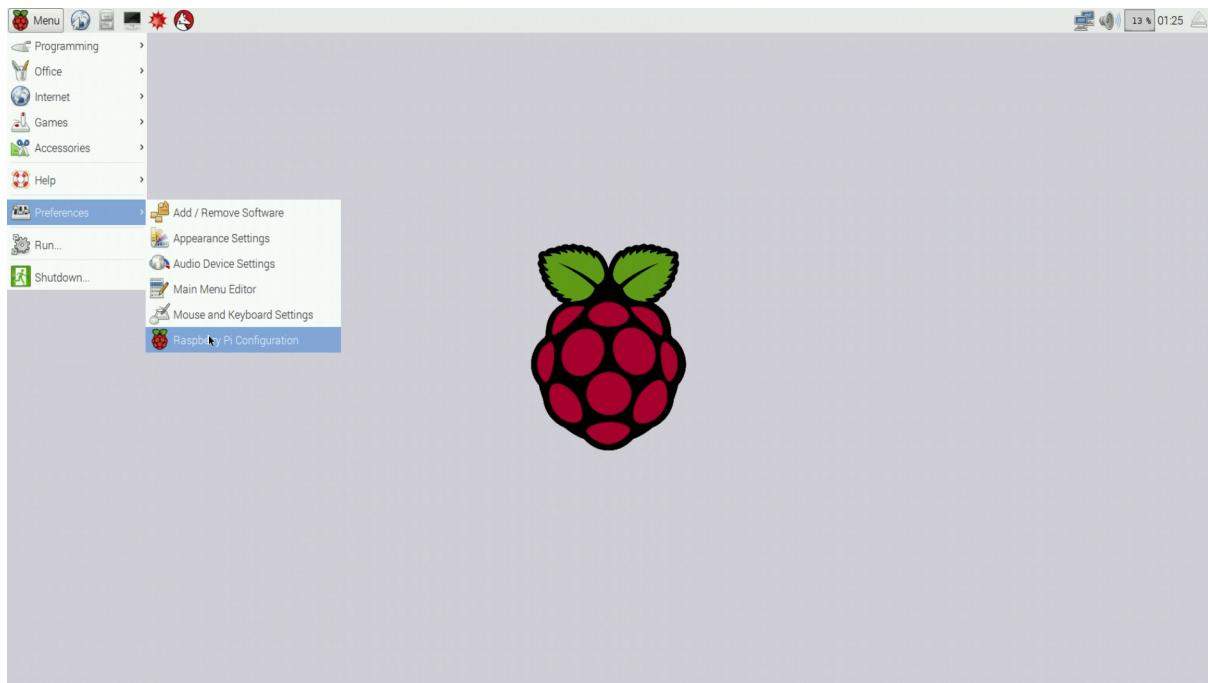

Figure 3: Raspberry pi desktop
Step 7: Once the power is connected, the PI should begin to boot up. After a minute or so, you should be able to see the desktop of the raspberry pi and be able to interact with its installed programs as shown in figure 3. If this doesn't happen, ensure the SD card is correctly inserted, and ask for help!